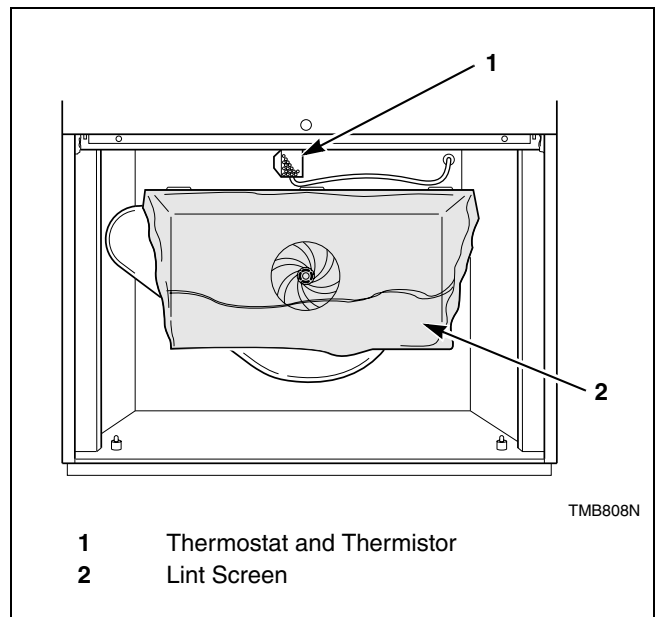

Figure 10
- e. Carefully wipe any accumulated lint off of the cabinet high limit thermostat and thermistor. Failure to do so will allow a buildup of lint in this area to act as an insulator, causing the tumbler to overheat. Refer to *Figure 10*.